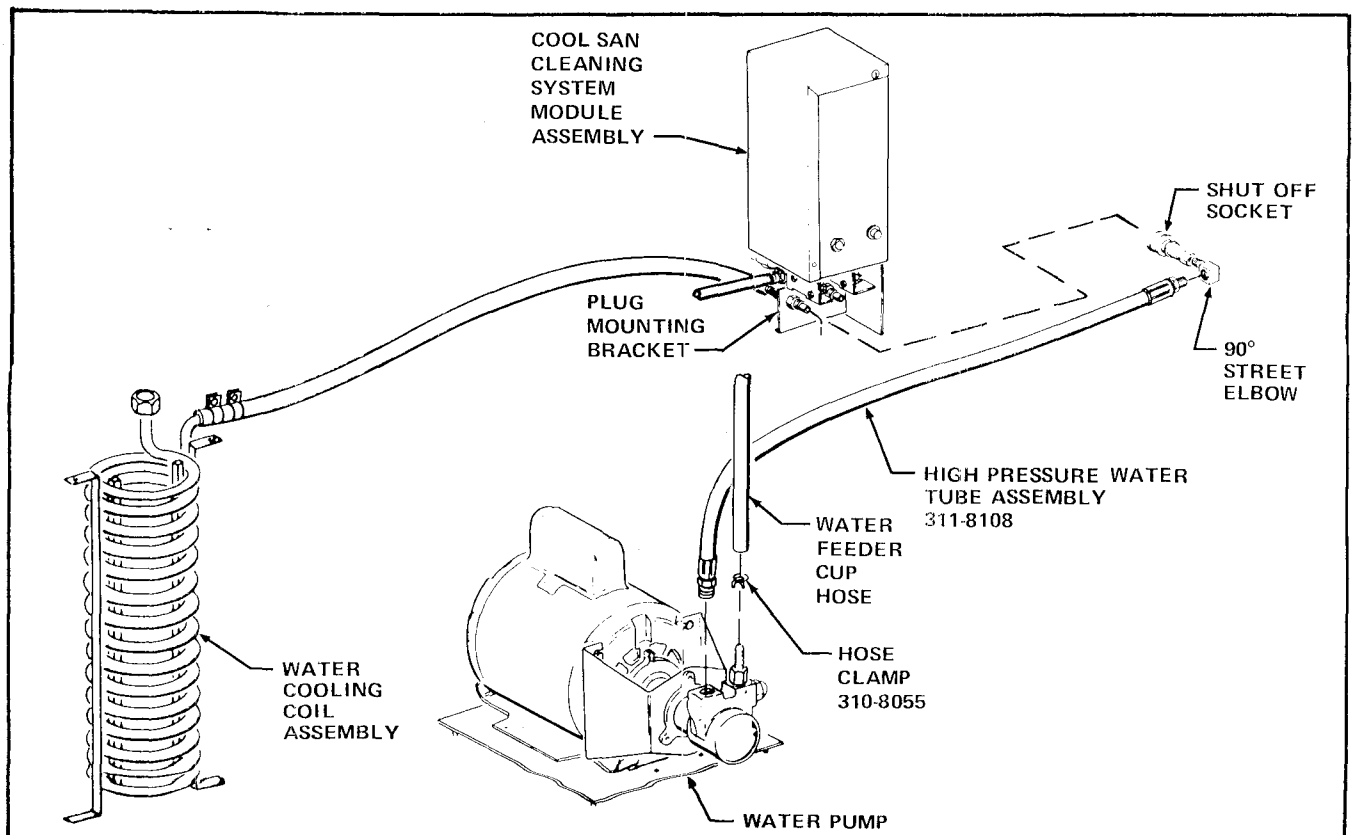

FIGURE 10
1. Install the Shut Off Socket and 90 degree Street Elbow, on the 1/8 NPT Fitting of the High Pressure Water Tube Assembly, Part Number 311-8108, included in the Kit. See Figure 10.
2. Install the 3/8 NPT Fitting of the High Pressure Water Tube Assembly in the Outlet Port of the Water Pump. See Figure 10.
3. Connect the Shut Off Socket to the Normal Vend Shut Off Plug on the Cool San Cleaning System Module Plug Mounting Bracket. See Figure 10.
4. Install the Water Feeder Cup Hose and Hose Clamp, Part Number 310-8055, included in the Kit, on the Hose Connector at the Inlet Port of the Water Pump. See Figure 10.